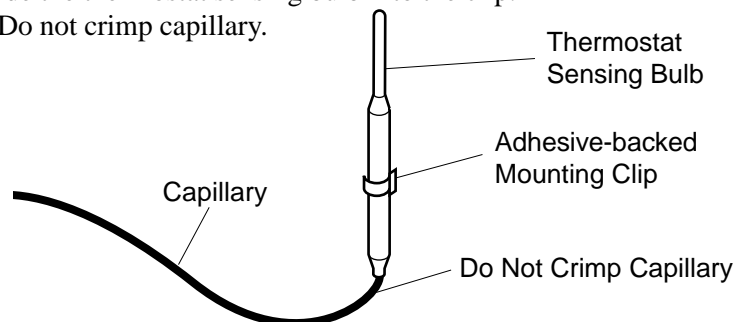

Figure 40 - Positioning the Thermostat Sensing Bulb in the Vertical Position with the Capillary at the Bottom
5. The mounting clip must be a minimum of 3" from bottom of fireplace to prevent crimping of capillary. Once you have decided on a location, clean the area thoroughly. Remove the paper backing from the adhesive on back of mounting clip. Press the clip into the new location so that the thermostat sensing bulb will be positioned vertically with the capillary at the bottom (see Figure 40). Slide the thermostat sensing bulb into the clip.